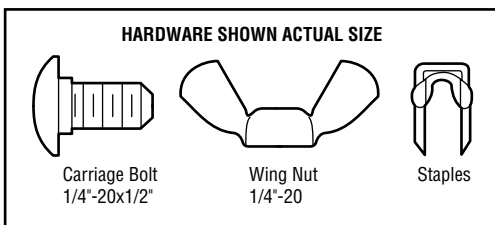

Figure 1 DOOR TRACK MOUNT (RIGHT SIDE)
- Slip the curved arms over the rounded edge of each door track, with the curved arms facing the door. Snap into place against the side of the track. It should lie flush, with the lip hugging the back edge of the track, as shown in Figure 1.